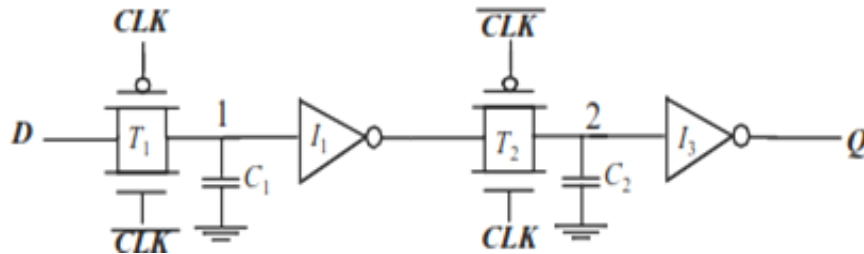

Figure 3.14 Dynamic edge-triggered register.
- A dynamic positive edge-triggered register based on the master-slave concept is shown in Figure 3.14.